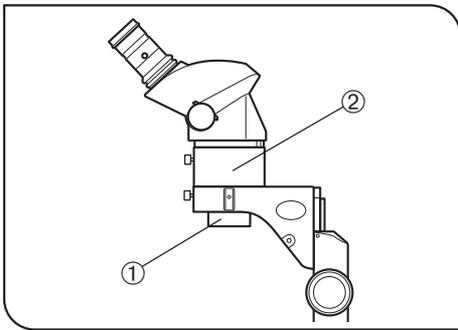

Fig. 1
2. When the optional 0.5X auxiliary objective ① is used, the microscope become unstable due to the use of the SZ2-ET auxiliary sleeve ②. Be careful not to topple down the microscope. (Fig. 1)